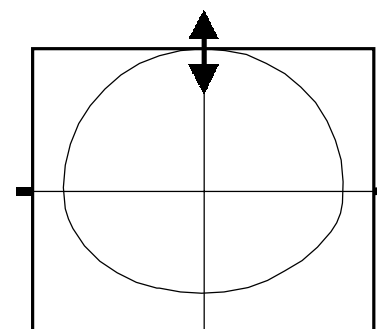

Fig. 2
4. Select the V-SIZE to change the size of the top and bottom halves of the picture. (Fig. 2)